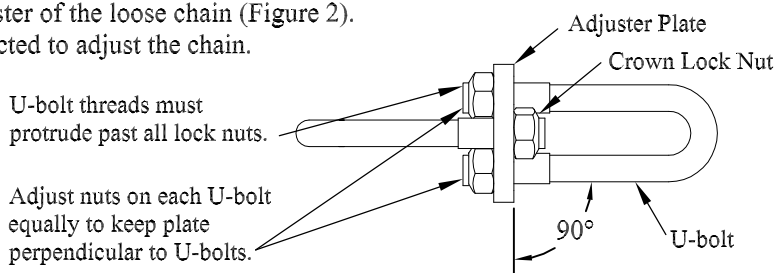

Figure 2: Proper platform chain adjustment.
5. **Tighten** the U-bolt lock nuts (evenly) at the chain adjuster of the loose chain (Figure 2).
2. **Adjust** the chains equally until the taper touches the ground (Figure 2).